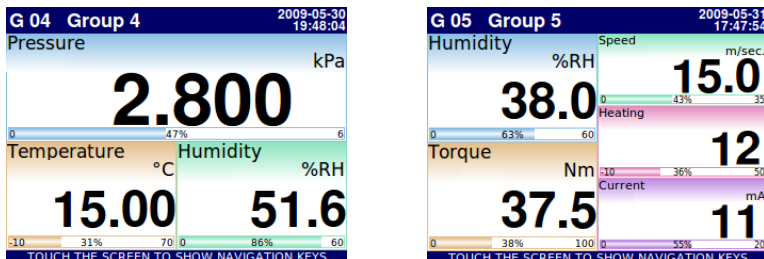

Fig. 6.6. Examples of **Numerical Values** presentation mode
All channels of the current group are simultaneously presented in the same mode. In the current version of software there is no possibility to mix different modes in one view. Figures 6.6 – 6.10 show examples of different views. The switching between visualisation modes can be done by pressing the buttons **[MODE↑]** or **[MODE↓]** in the **Navigation bar** (see **Chapter**
- as numerical values Fig. 6.6